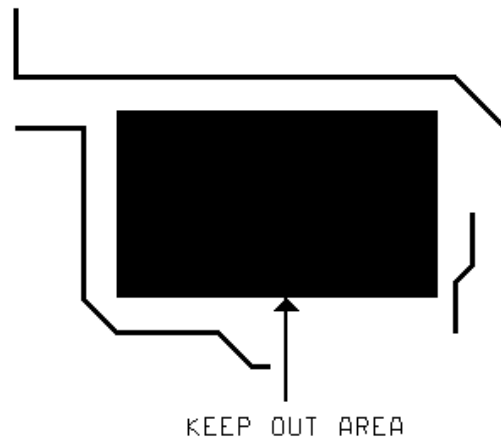

Figure 1 Keepout Void on a PCB
The method of establishing a keepout is to place a closed polygon (using the INPUT POLYGON command) of one (1) database unit line width. The area within the polygon is considered to be a void, not used as allowable routing area by PROROUTE. Figure 1 illustrates a void area of a PCB as defined by a keepout. The board used in Figure 1 requires a one square inch cutout for mounting purposes. The keepout defines this cutout as a non-routing area.